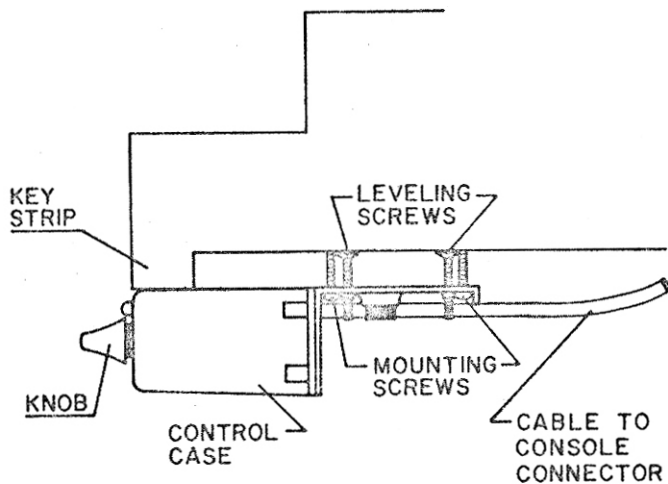
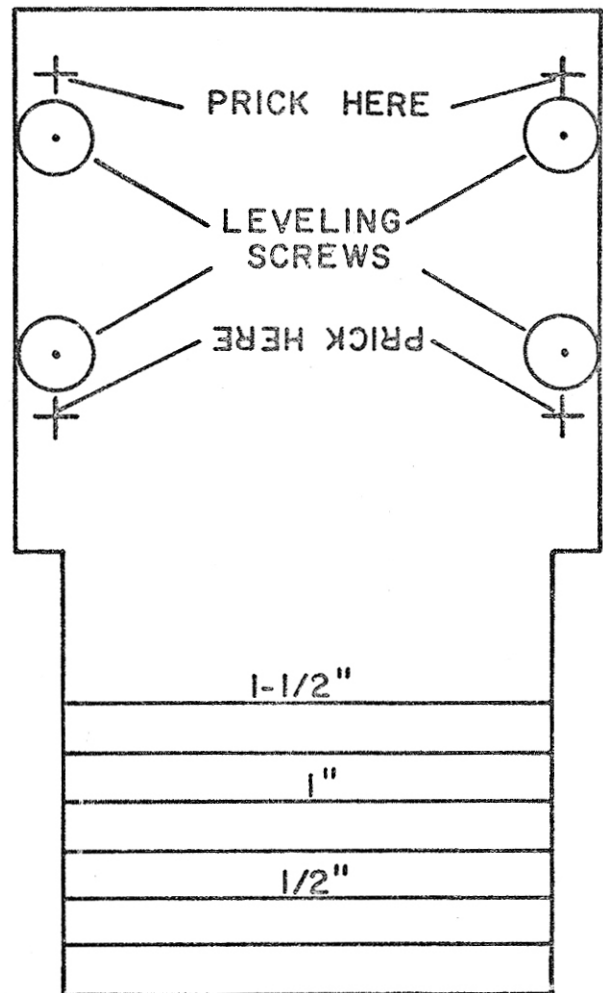

Figure 1. Control Mounted on Organ
Figure 2. Control Location and Mounting Template
CONTROL UNIT MOUNTING (figures 1, 2)
- 3.** Indicate the control location on the under side of the shelf. Cut out the paper template (figure 2) provided in this instruction sheet.
6. Put the four leveling screws (flat-headed machine screws) into the holes indicated in figure 2, WITH THE HEADS UPWARD. Hold the control mounting bracket in position at the location marked for mounting. Adjust each of the four leveling screws so that the control is positioned just below the keybed, and is level. See figure 1.